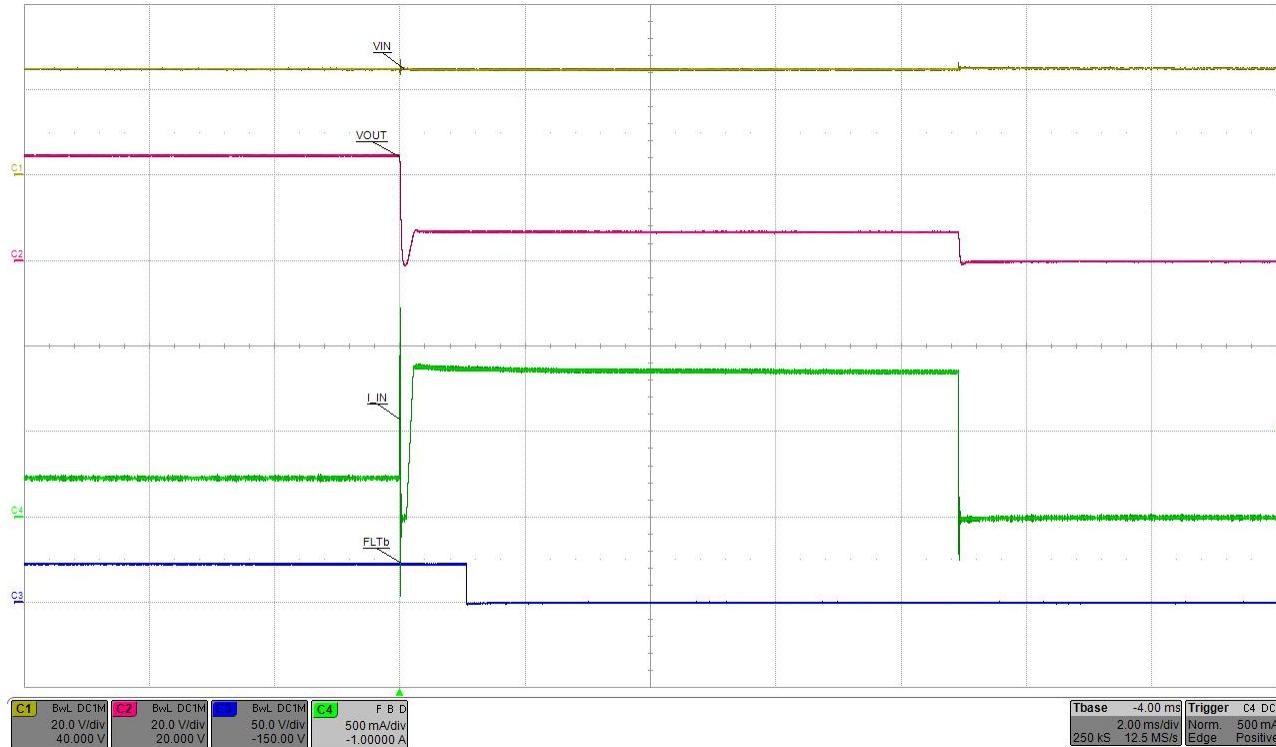

Figure 4. Output Short-Circuit Protection
4. Use either thick wire or a screw driver to short the output to ground and verify the output short-circuit response as shown in Figure 4.